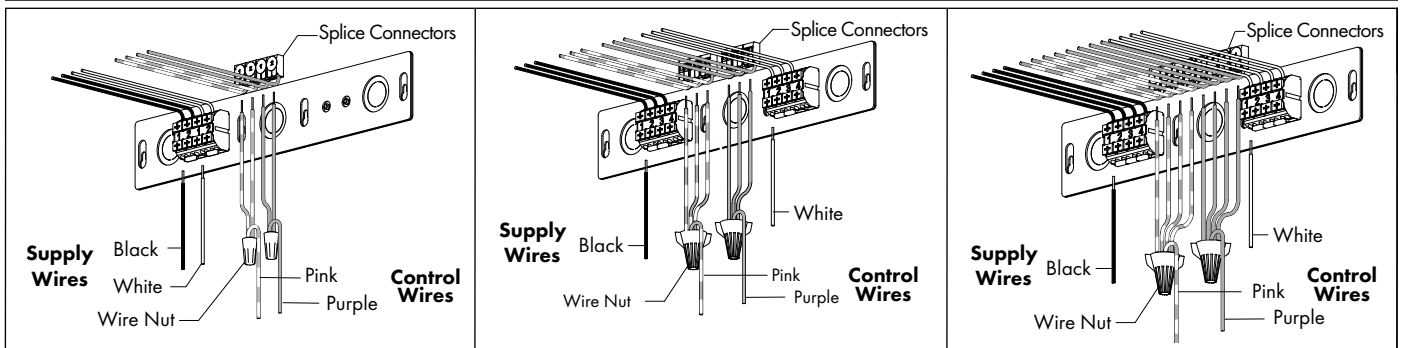

FIG 5.2 Attach Supply & Control Wires
2. Make wire connections noting individual lamp circuit numbers - FIG 5.2 & 5.3.